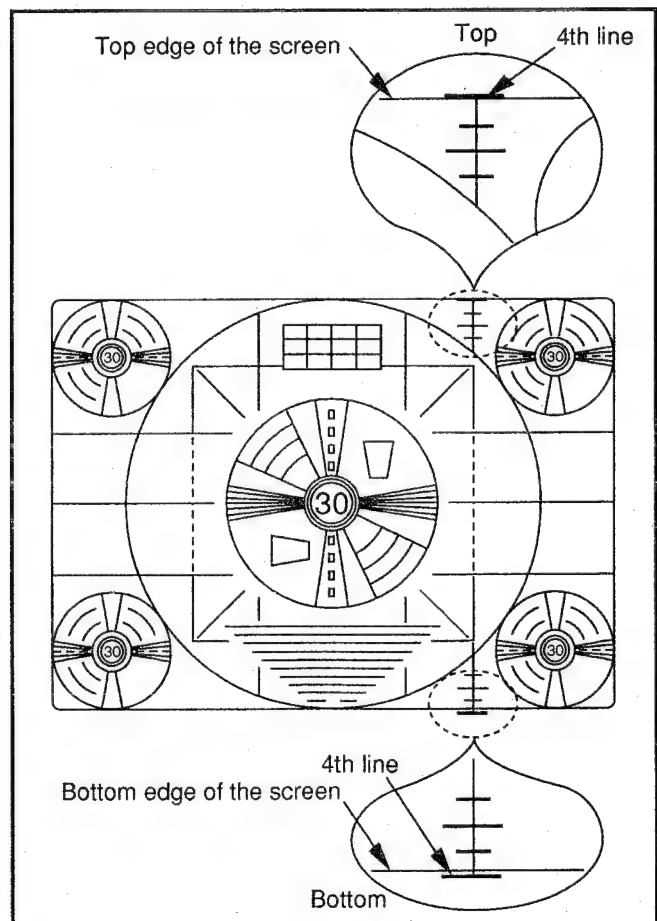

Fig. E17-2
1. Adjust the R410 (V-HEIGHT) so that the top 4th line just disappears from the edge of the screen. Then adjust so that the bottom 4th line is also out of view (Refer to Fig. E17-2).